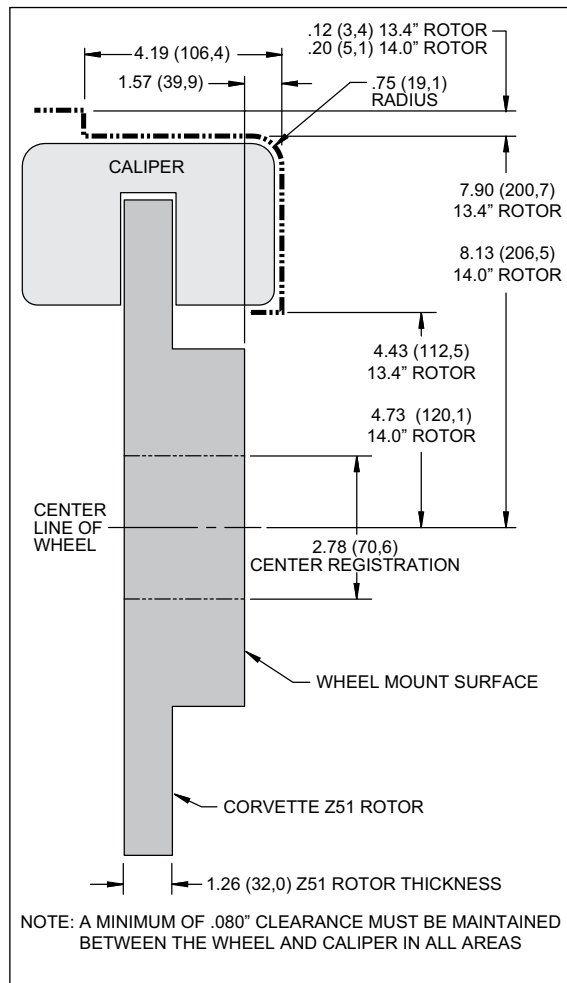

Figure 2. Wheel Clearance Diagram
- Use of this kit generally requires 18" wheels. In some cases, using the 13.38" diameter Z51 rotor may fit with 17" wheels. Please refer to the wheel clearance diagram (Figure 2, page 3) for minimum clearance requirements and compatibility with your wheels and preferred rotor size. Parts that have been installed may not be returned or exchanged.
- Make sure this is the correct kit to fit the exact make and model year of your vehicle, spindles, and wheels. This kit is designed for direct bolt-on installation to mount a Aerolite 6R caliper to all 1997-2013 C5/C6 Corvette Original Equipment (OE) production front spindles using an OE style one-piece front rotor from one of the following production models:
- **NOTE:** This kit does not fit all Corvette wheels. This kit has been verified to fit inside 18" C6 Grand-Sport and Z06 front wheels, but interference may occur with other production and aftermarket wheel styles. Wheel clearance must be verified using Figure 2.
- Verify your wheel clearance using Figure 2.